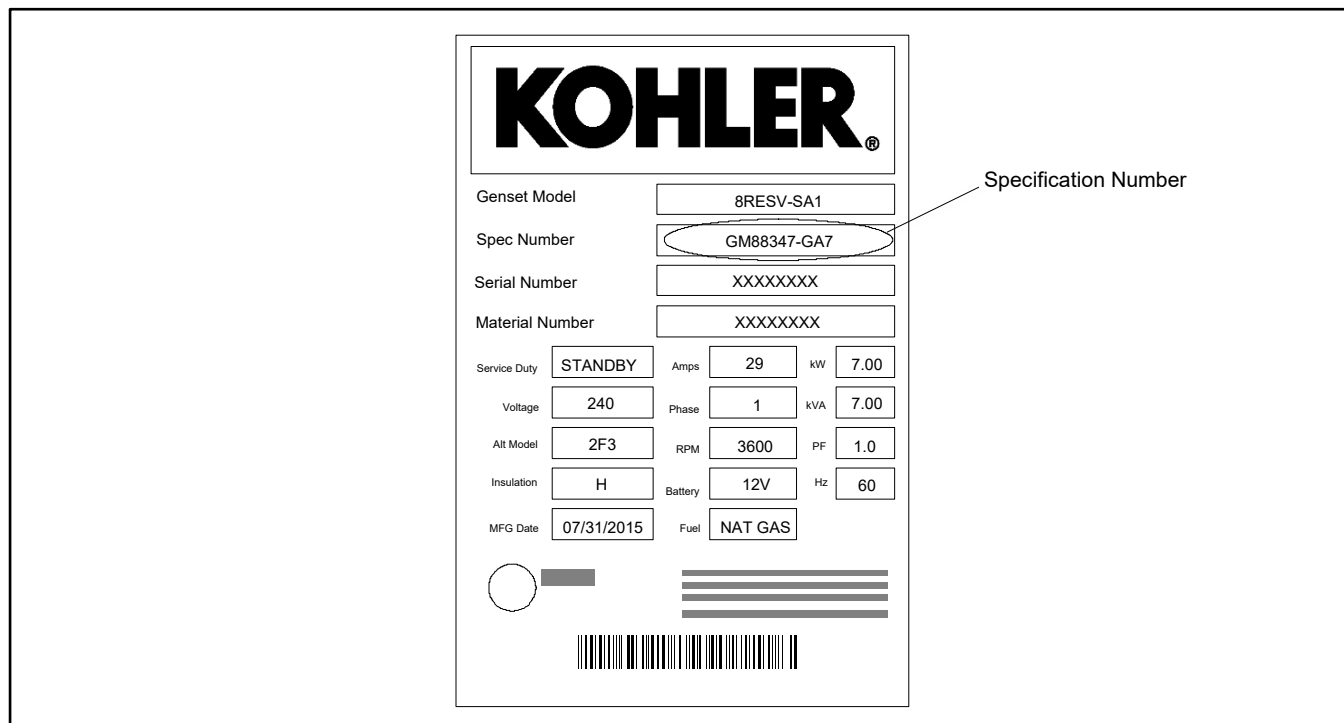

Figure 43 Name Plate
The reduced minimum clearance from a structure contained in ADV-8774 and ADV-9739 only applies to generators that are compliant with clause (2) of section 4.1.4 of NFPA 37. To verify that the generator is compliant, check the **Specification Number** located on the generator name plate. See Figure 43. If the name plate displays one of the following specification numbers, then the generator is compliant with clause (2) of section 4.1.4 of NFPA 37 and the reduced clearance in ADV-8774 (Figure 47) and ADV-9739 (Figure 50) will apply.